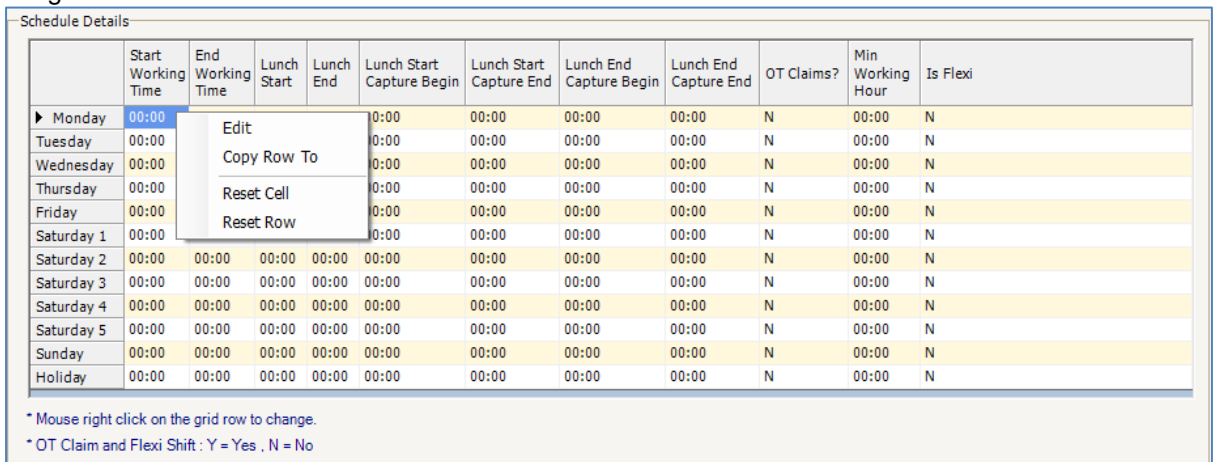

Figure 65 - Schedule Details
- In Schedule Details, you can configure the time for the shift (Refer **Figure 65**). Right click on the grid row to edit the time.